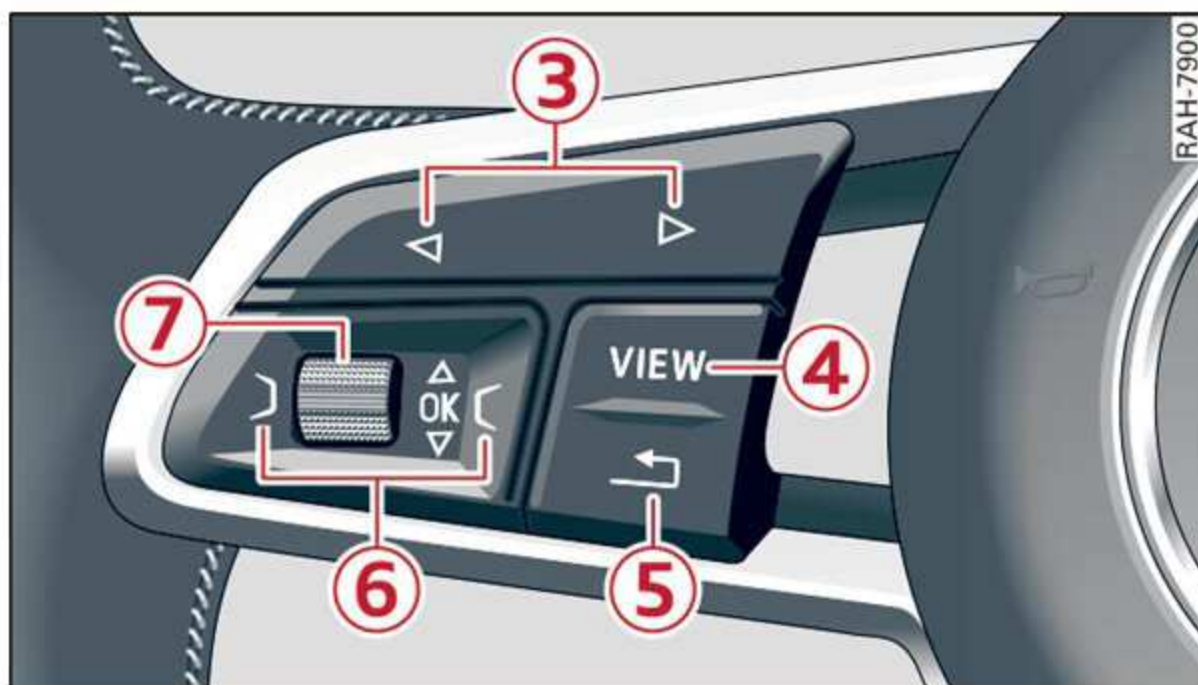
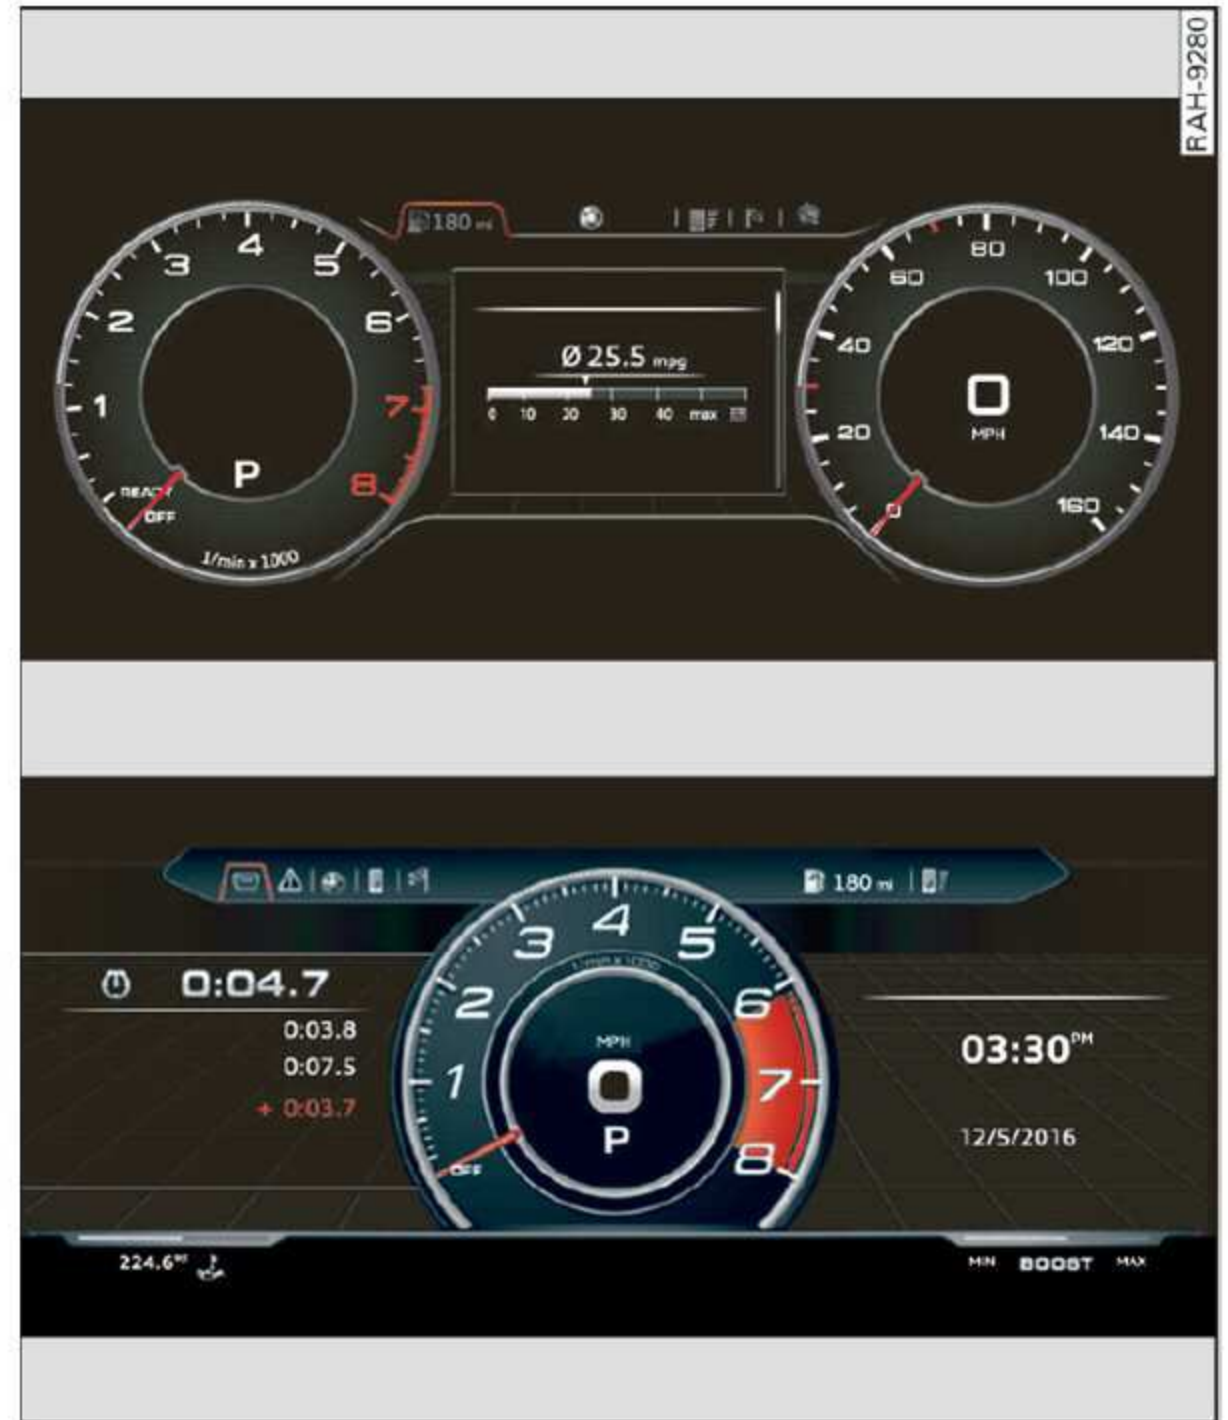
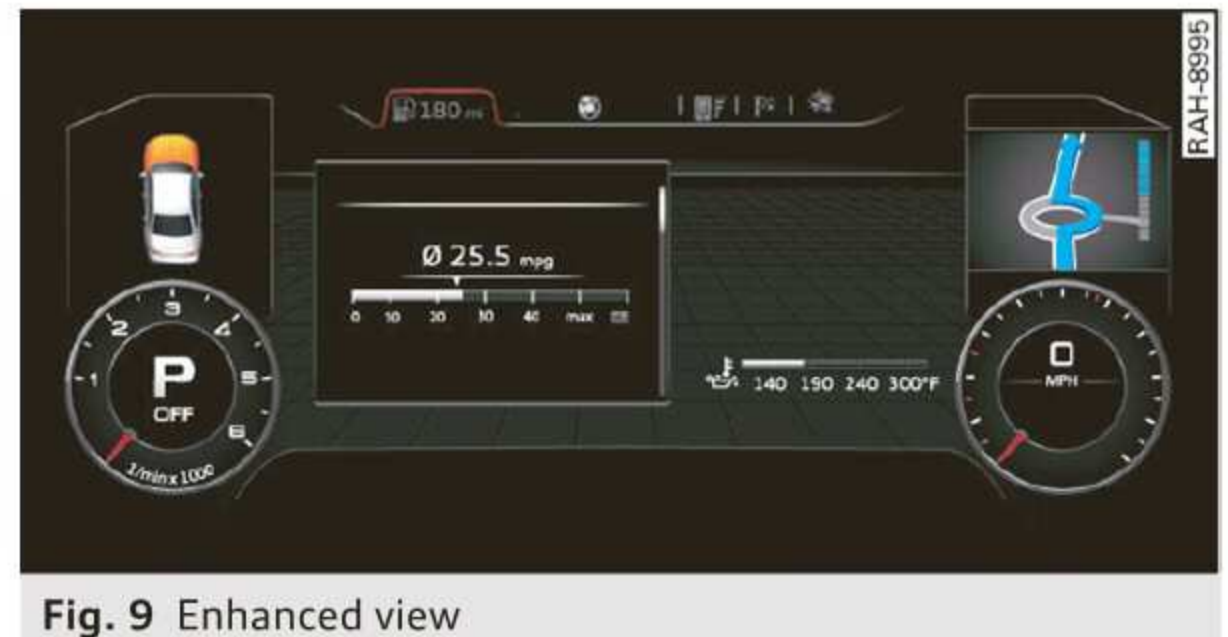

Fig. 6 Left side of multifunction steering wheel
Fig. 8 Standard view: classic/sport*
Fig. 9 Enhanced view
- ▶ Press the **VIEW** button (4) ⇒ *page 12, fig. 6* to switch from the default view ⇒ *fig. 8* to the enhanced view ⇒ *fig. 9*.